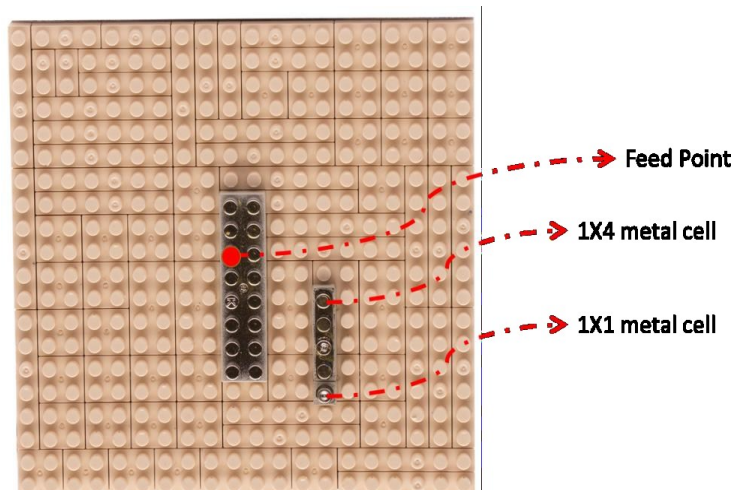

Figure 11 Feed metal cell, 1X4 and 1X1 cell locations for this experiment
10. Locate the feed metal cell. The red point shows the feed point for this experiment. Locate the third cylinder of the feed metal cell over the inner conductor of the connector as in Figure 11. Locate 1X4 and 1X1 metal cells as in the figure. Do not dismount them during the antenna design.